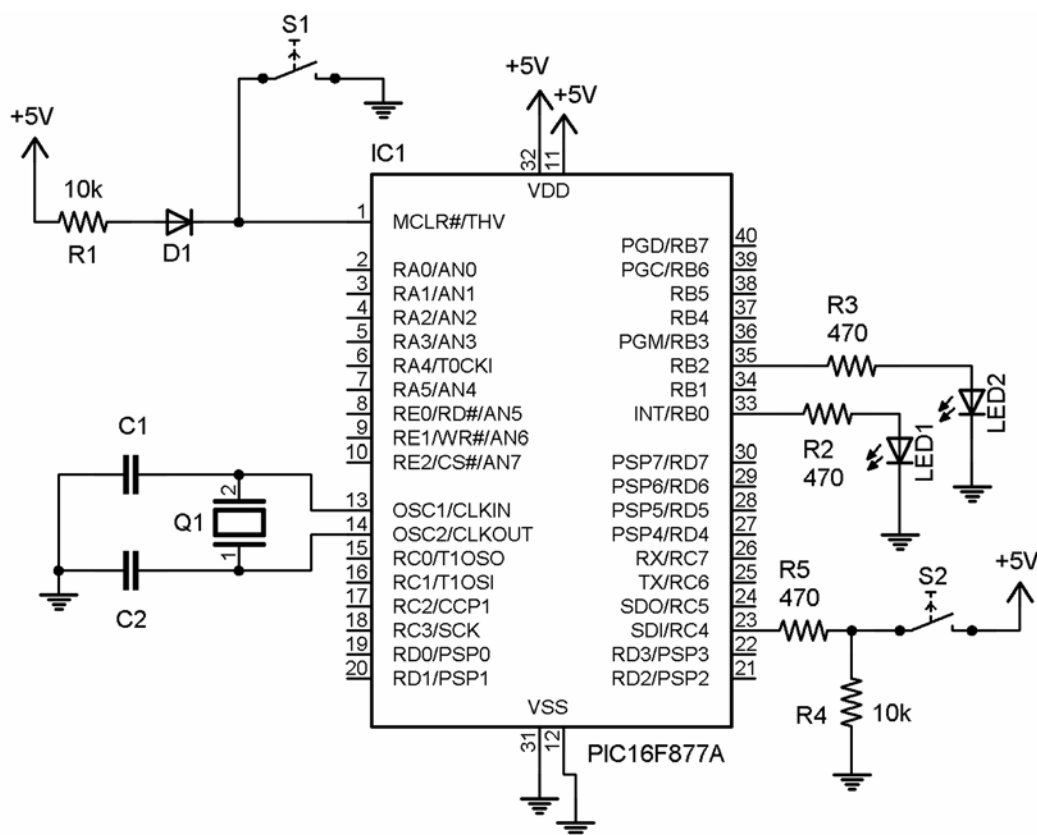

Figure 5. Pushbutton switch circuit
2. Build a circuit similar to that in Figure 5. You can choose almost any of the I/O pins for the two LEDs and the pushbutton switch. Notice that when the switch is open (not pushed), the microcontroller pin is held low. When the switch is pushed, the pin is held high.